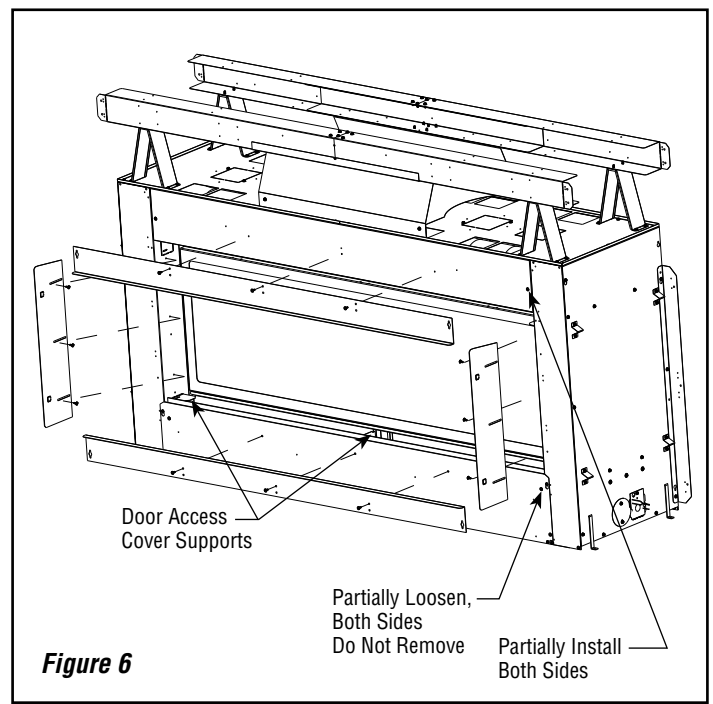

Figure 6
8. Partially install two (2) #8 Phillips head screws into the upper left and right tile stop mounting holes. Partially loosen (DO NOT REMOVE) the two (2) lower outside tile stop Phillips head screws. Hang the top and bottom tile stops on those outside screws and install the remaining #8 Phillips head screws on each tile stop (see **Figure 6**).
9. Using six (6) #8 Phillips head screws, install the side tile stops as shown in **Figure 6**.
10. Bend both side door access cover supports upward until they are flat. Bend the center door access cover toward the door on the fireplace (see **Figures 6 and 7**).